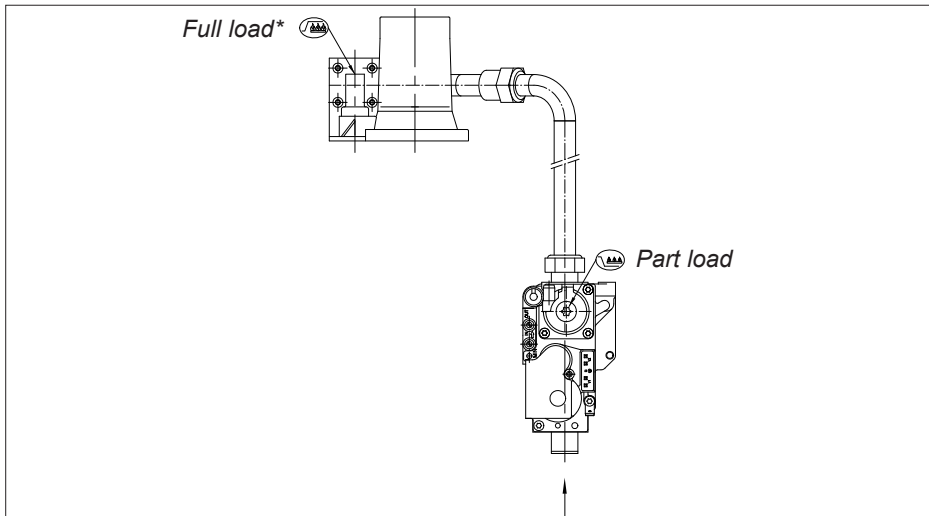

Fig. 21 Setting screws
- 16.3. When full-load speed is reached, check values against the table and adjust if necessary using the screw on the venturi (see Fig. 21).
16.6. When part-load speed is reached, check values against the table and adjust if necessary using the screw on the combi valve (see Fig. 21).